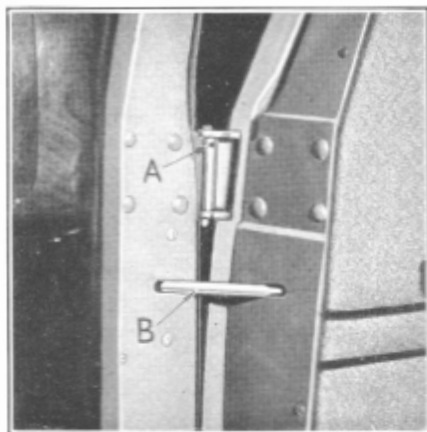

Figure 30
All doors are provided with strong steel check straps (B), Figure 30, imbedded in rubber at the ends, to control the swing of the doors.
The door hinges should be lubricated periodically with light oil, through oil holes (A), Figure 30, provided at the top of the body half of the hinge, adjacent to the hinge pin and accessible when the door is open.